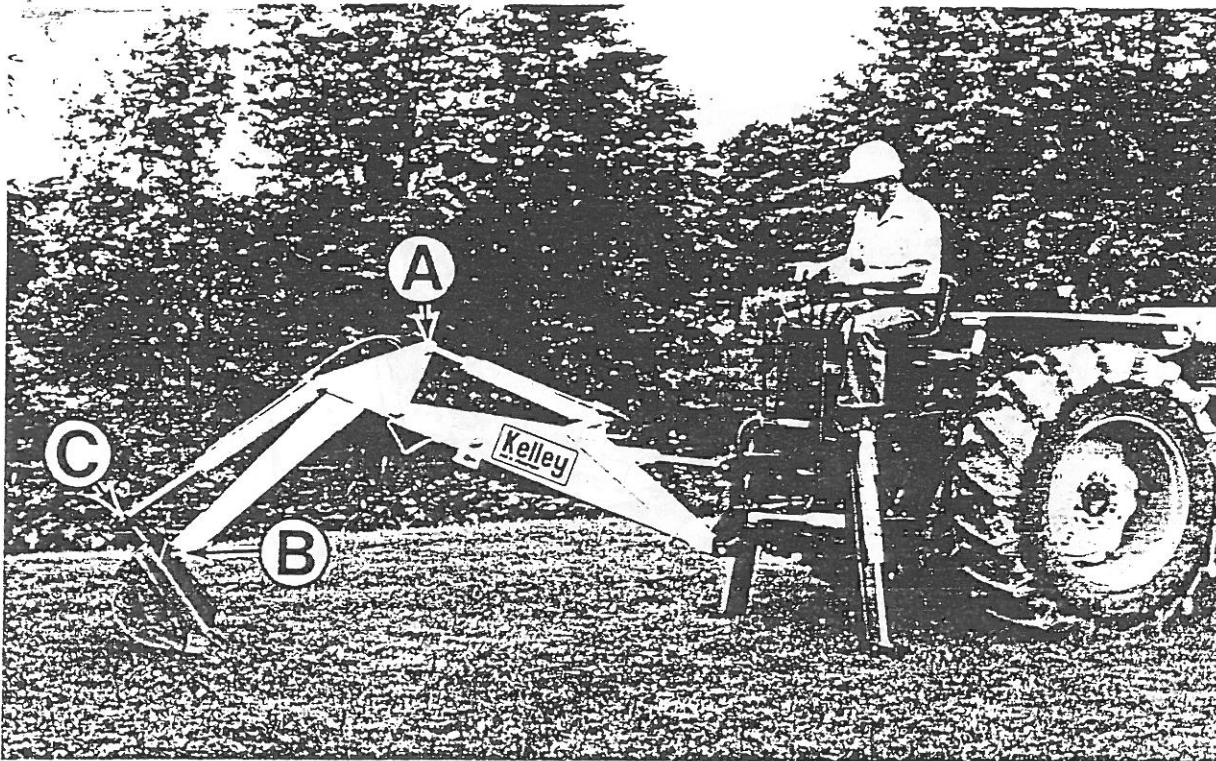

Figure 5
12. Remove the pin from Point A of Figure 5.
24. Remove the pin on the dipper stick, Point B of Figure 5. Position the dipper stick and bucket cylinder in order to mount the bucket. Mount the bucket at Points B and C of Figure 5. Secure the bucket pin with the 3/8" set screw and lock with jam nut. Secure bucket cylinder pin with 5/16" cotter pin.